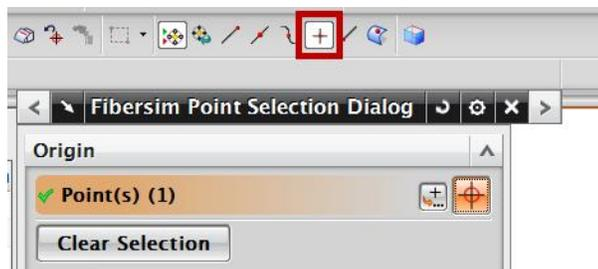

Figure 4-4
7. Make sure that the **Existing Point** filter is on as shown in Figure 4-4.